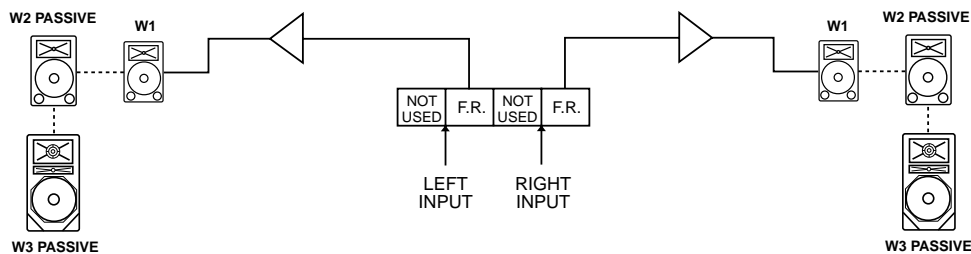

Fig 7. W1, W2 or W3 Passive operation using WX3ASF Card
A WX3A controller is used to provide LF equalisation and limiter functions for stand-alone W1, W2 and passive W3 systems operated full-range (see Fig 7). In this instance the W1, W2 and W3 should be driven from Bands 2 and 4 set to operate in full-range Mode (1) (see Section 6.3).